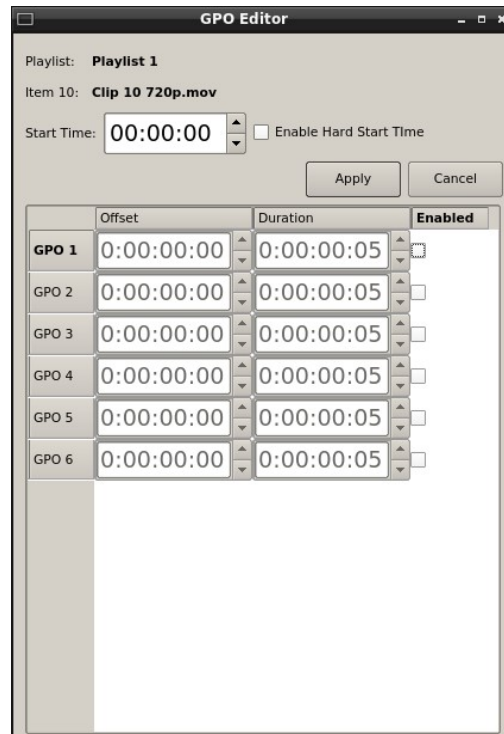

Figure 27 – GPO Editor
- C. Place the cursor over a Clip in a Playlist. Right click on the clip. Select **EDIT GPO**. The Event Editor (**Figure 27 – GPO Editor**) appears: